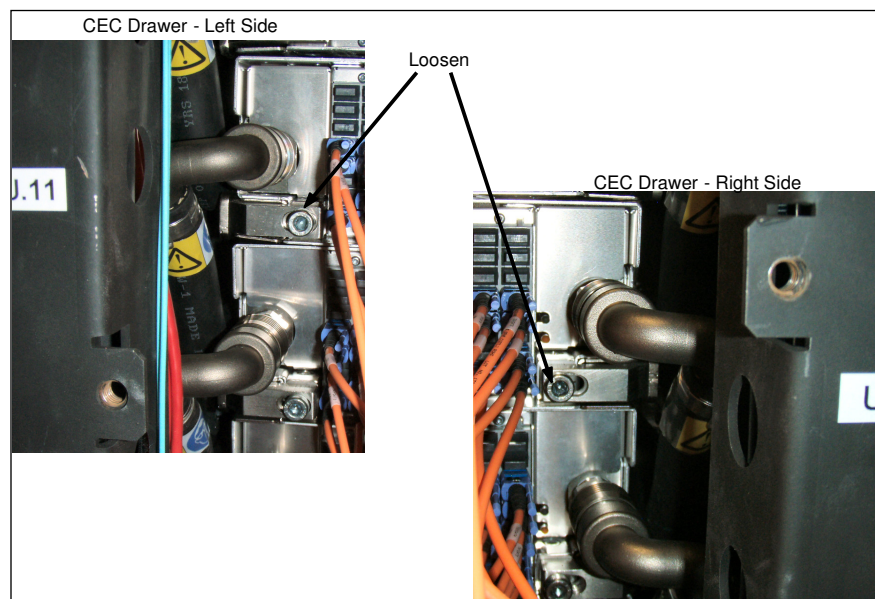

Figure 29 Rear CEC Rail mounting bracket
STEP 40 Loosen the rear CEC Rail mounting bracket captive screws using the tools listed below(see Figure 29):